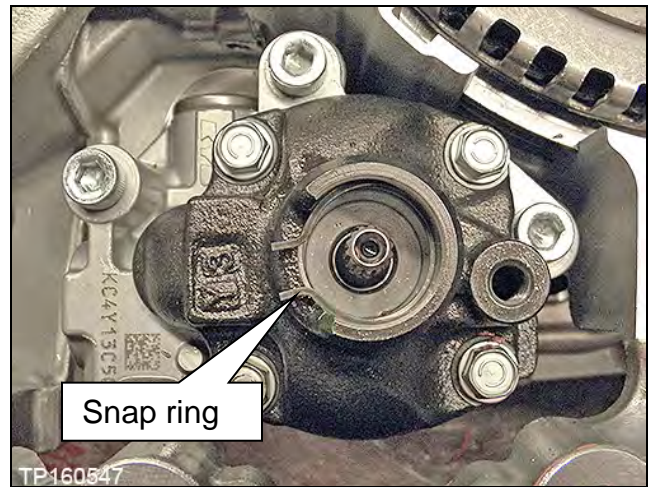

Figure 4E
5. Install the new snap ring (Figure 4E).